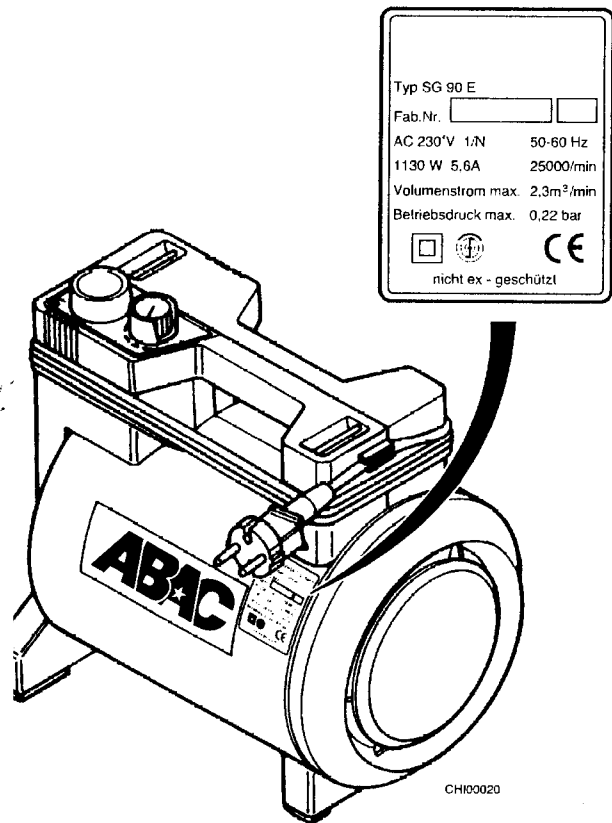

Fig. 1
**NOTE** Enter the serial number marked on the rating plate of your unit in figure 1. Keep your operating manual and its attached CE declaration of conformity in a safe place.